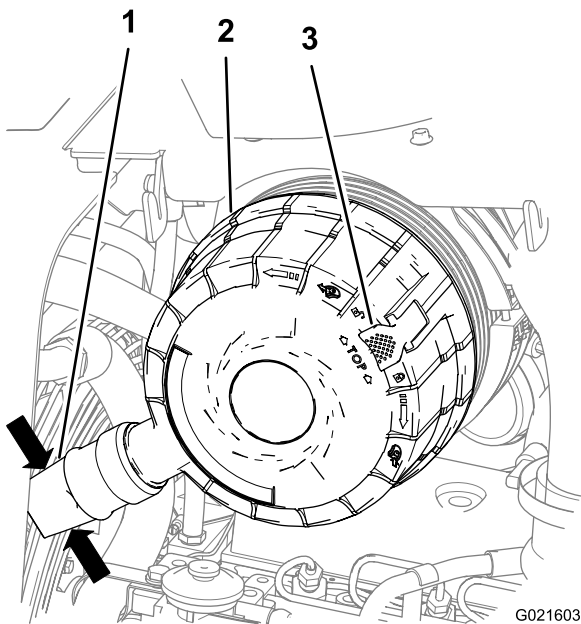

Figure 47
Squeeze the sides of the dust valve to release any collected water, dust, or dirt from the valve (Figure 47).
2. Pull the latch for the air-cleaner cover outward (Figure 47).
3. Rotate the air-cleaner cover clockwise so that the dust cap is at the 8 o'clock position (Figure 47).
4. Push the latch for the air-cleaner cover inward until the cover is fully seated (Figure 47).